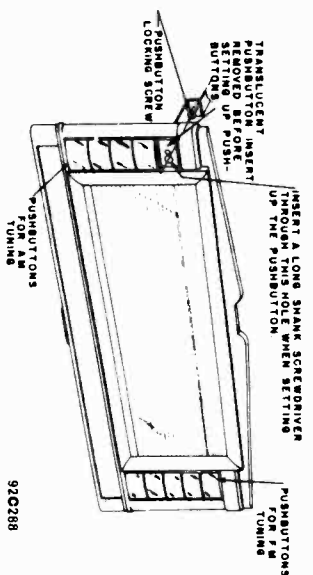

Fig. 1. View showing pushbutton setup.
3. Insert screw driver blade through large hole of pushbutton into slot of locking screw. (See Fig. 1.)